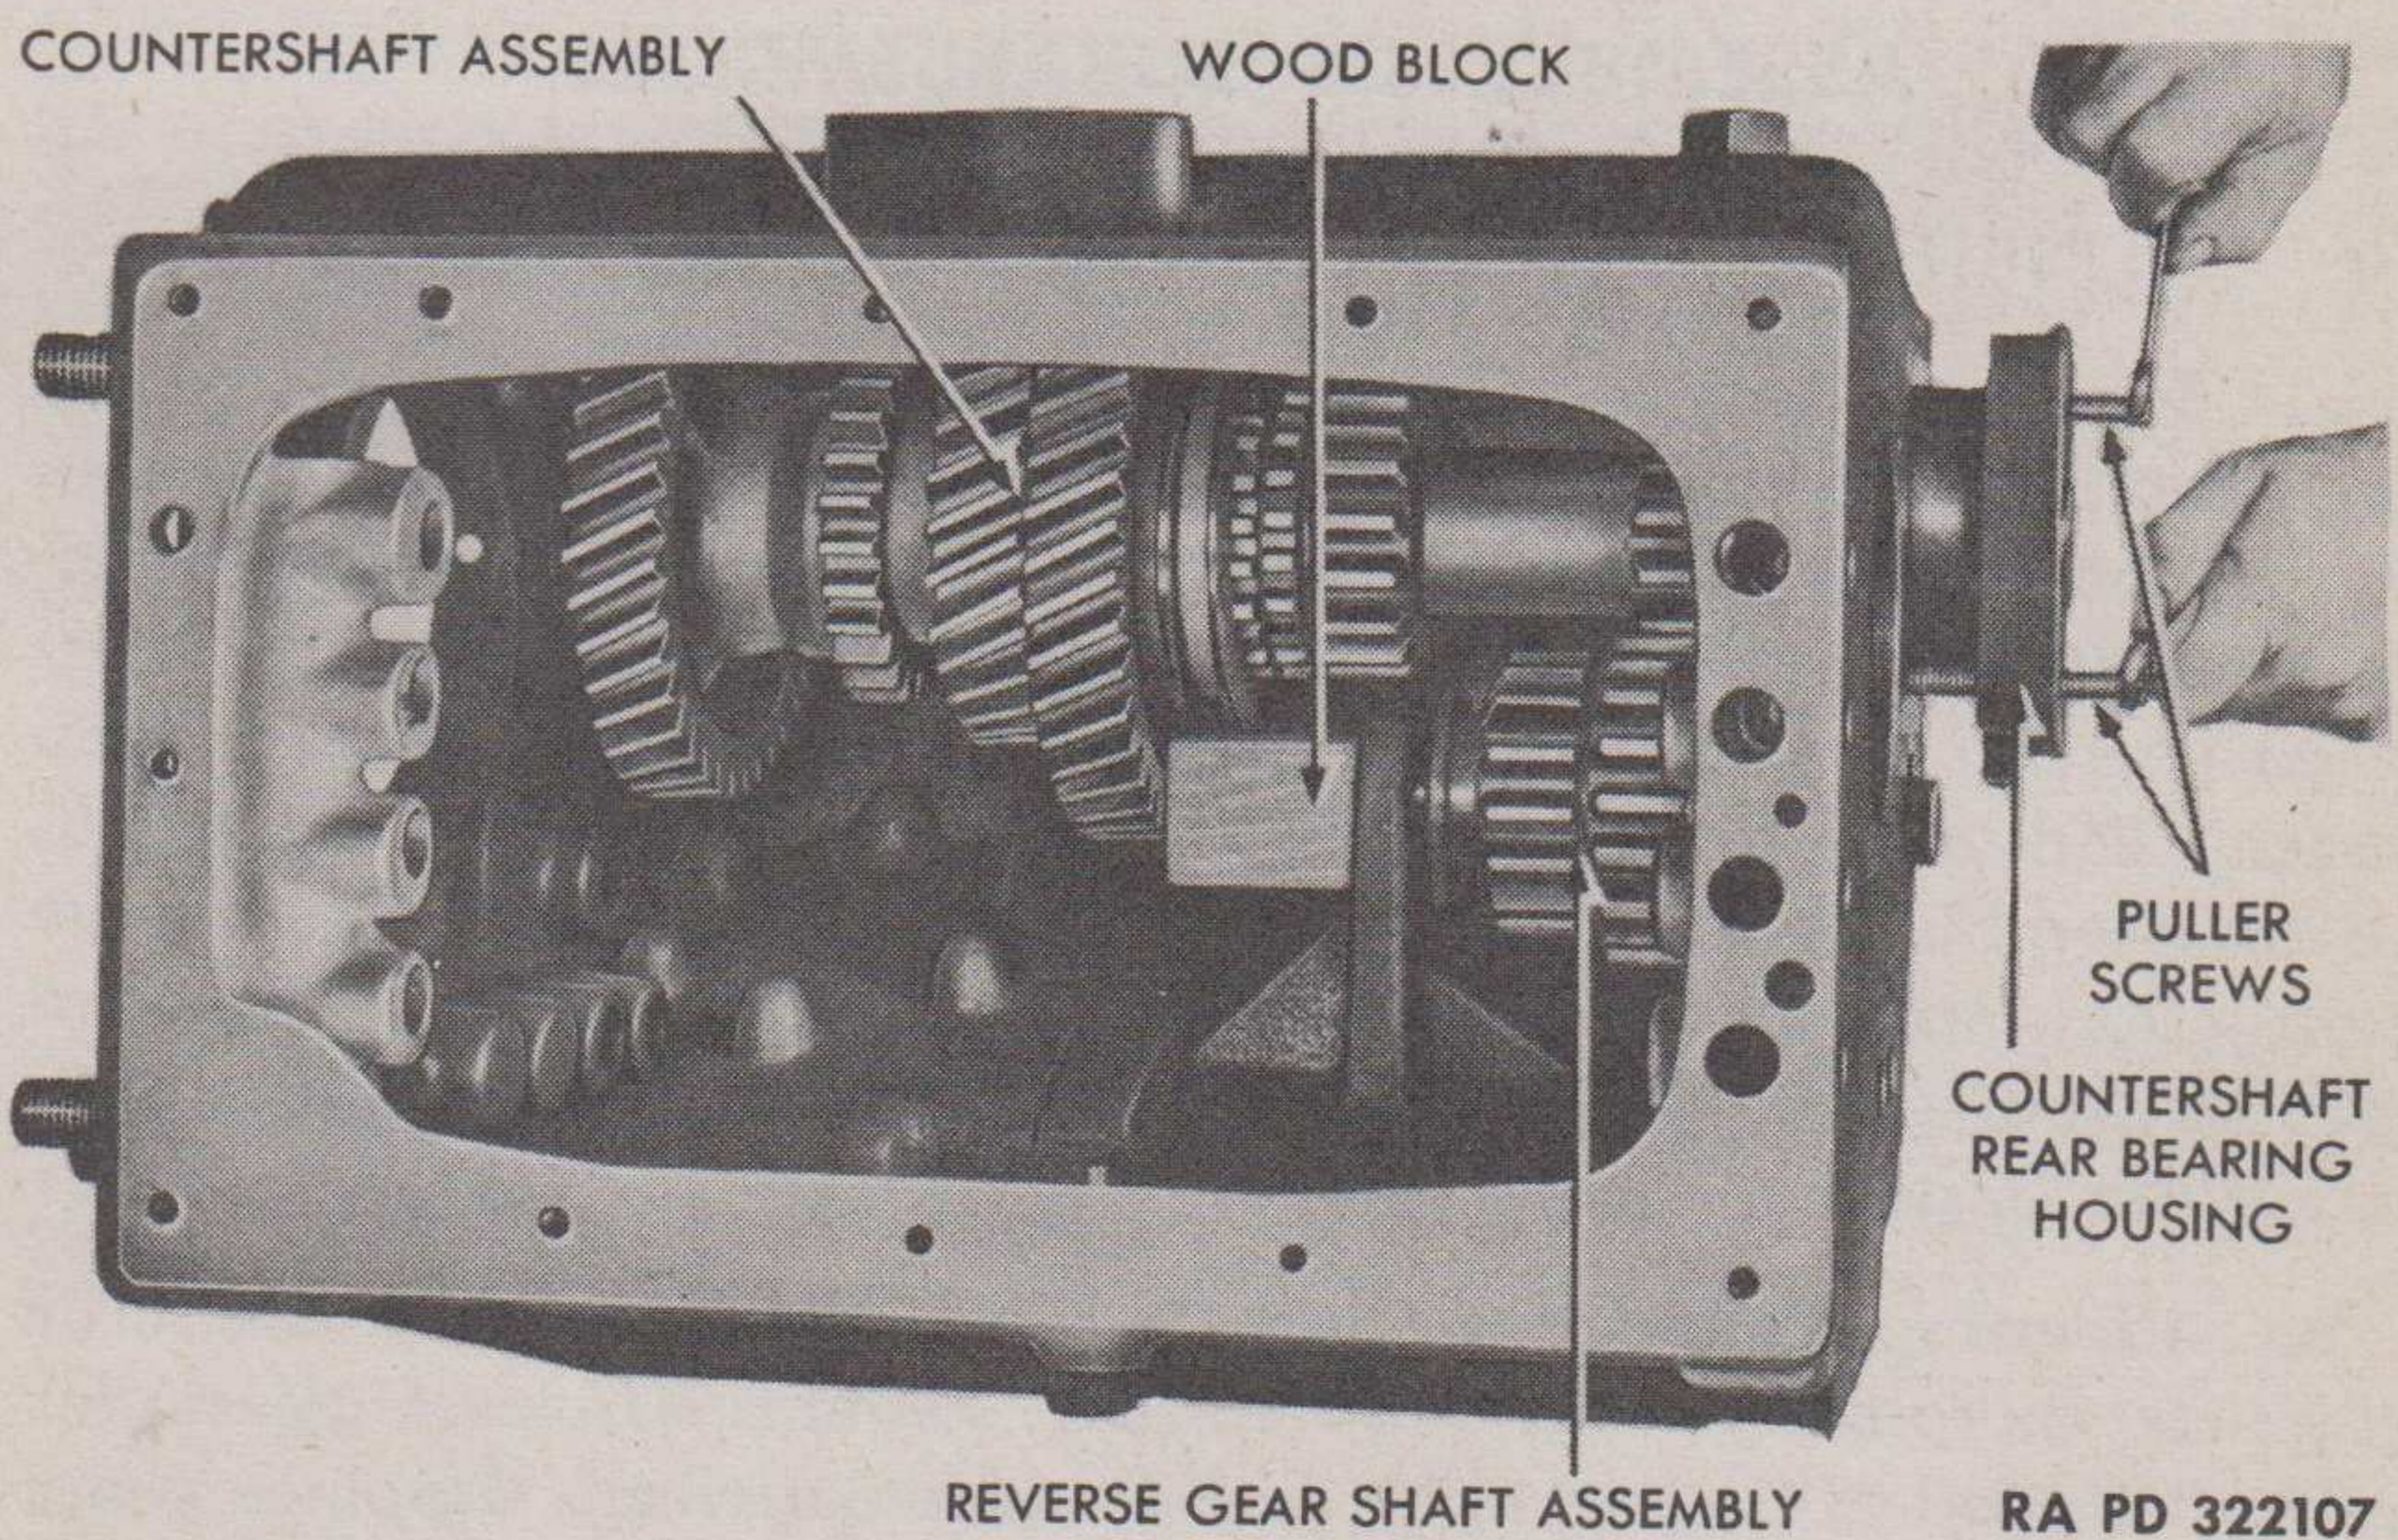

Figure 11 — Removing Countershaft Rear Bearing Housing
h. Remove Countershaft Assembly (fig. 11). Remove cap screws and lock washers attaching front and rear countershaft bearing caps to transmission case. Lift off caps and shims. Remove rear bearing nut, lock washer, and plain washer. Place a wood block between overdrive countershaft gear and reverse gear shaft support (fig. 11). Draw countershaft rear bearings and bearing housing out of transmission case with puller screws. Lift countershaft assembly out of transmission case.